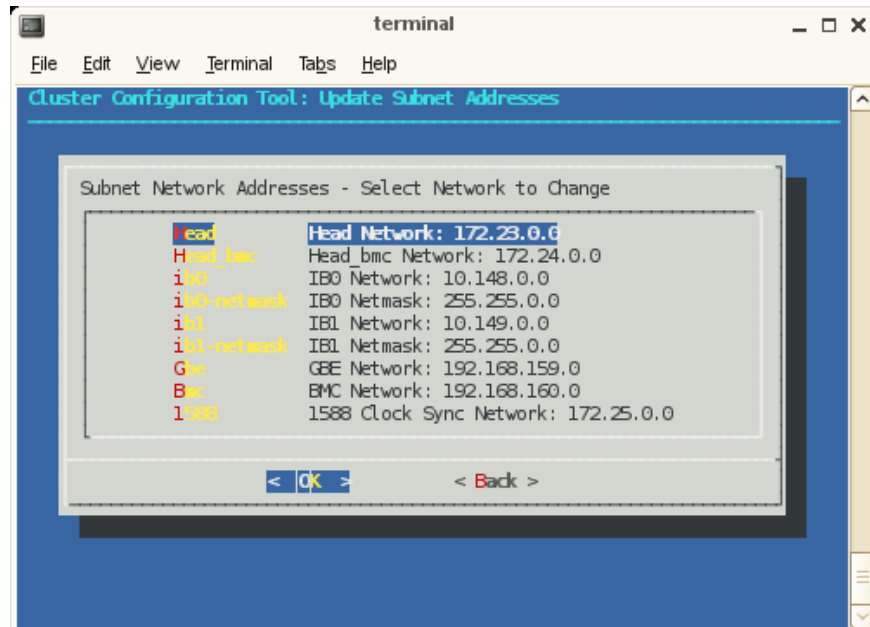

Figure 2-20 Update Subnet Addresses Screen
11. The **Update Subnet Addresses** screen appears, as shown in Figure 2-20 on page 63.